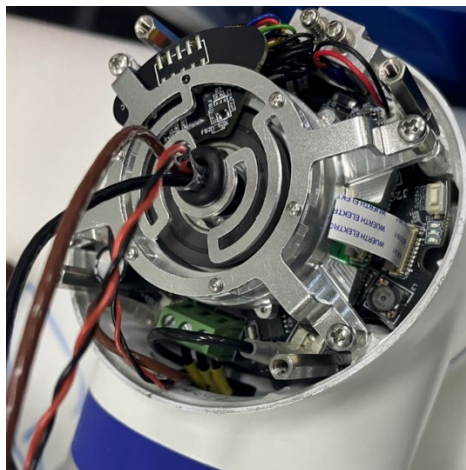

Figure 3-19 Insert the wire guard ring
- **Wire guard:** put the rubber guarding ring around the wire bundle, and push it all the way down to around the heat shrinking tube. Then put the wire guard ring on the wire rack as shown in Figure 3-19: